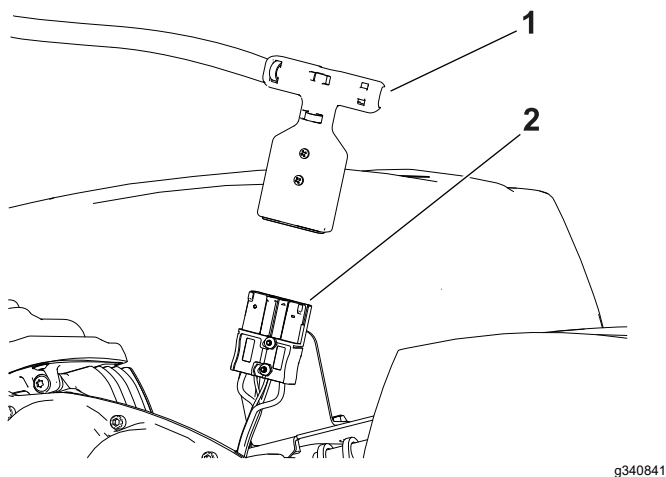

Figure 22
5. Disconnect the battery by pulling the T-handle connector off of the main-power-supply connector (Figure 22).